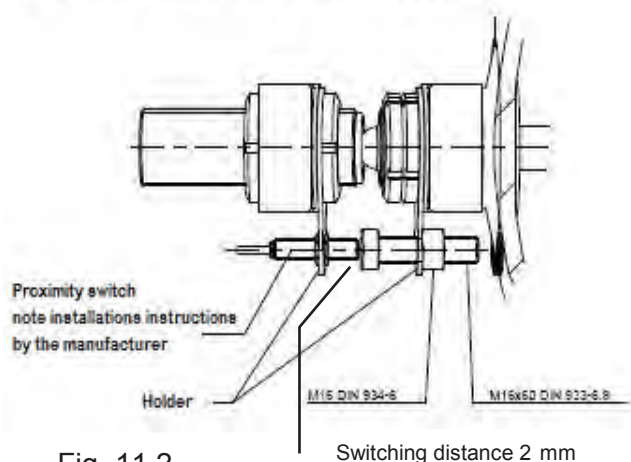

Fig. 11.2
- Ensure that the brake chamber is not applied with pressure air (brake caliper in gear). Position the inductive proximity switch at a distance of about 1.5 mm to a screw head (Fig. 11.2)